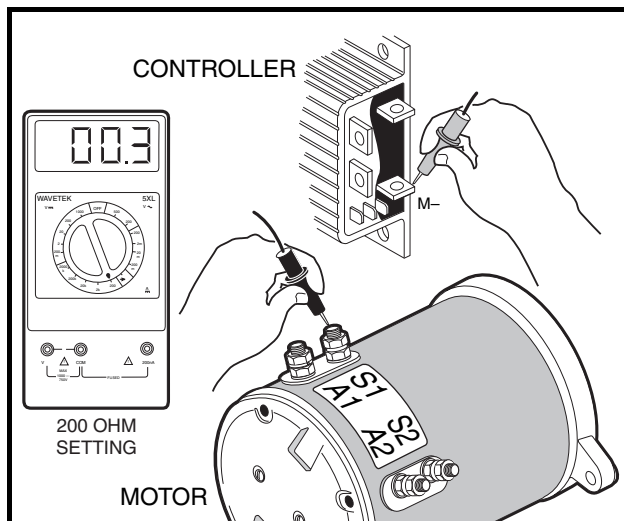

Figure 11-19 Forward/Reverse Test (Forward Position)
- Use a multimeter set to 200 ohms to test the Forward/Reverse switch in both directions. With Forward/Reverse handle in FORWARD, place red (+) probe of multimeter on M– terminal of speed controller and place black (–) probe on S1 motor terminal. Meter should indicate continuity (**Figure 11-19, Page 11-19**).